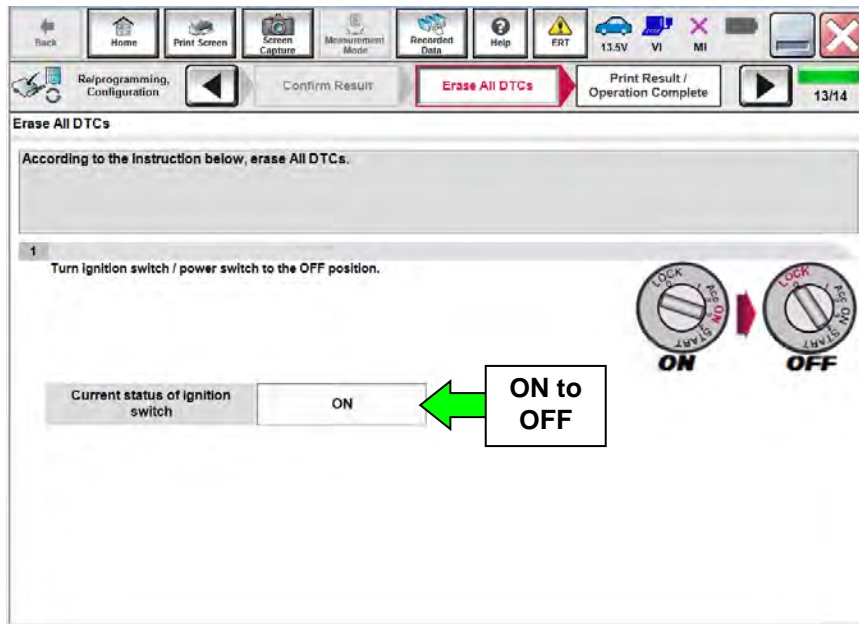

Figure 21
- The screen in Figure 21 will read **OFF** after pressing the power switch once.